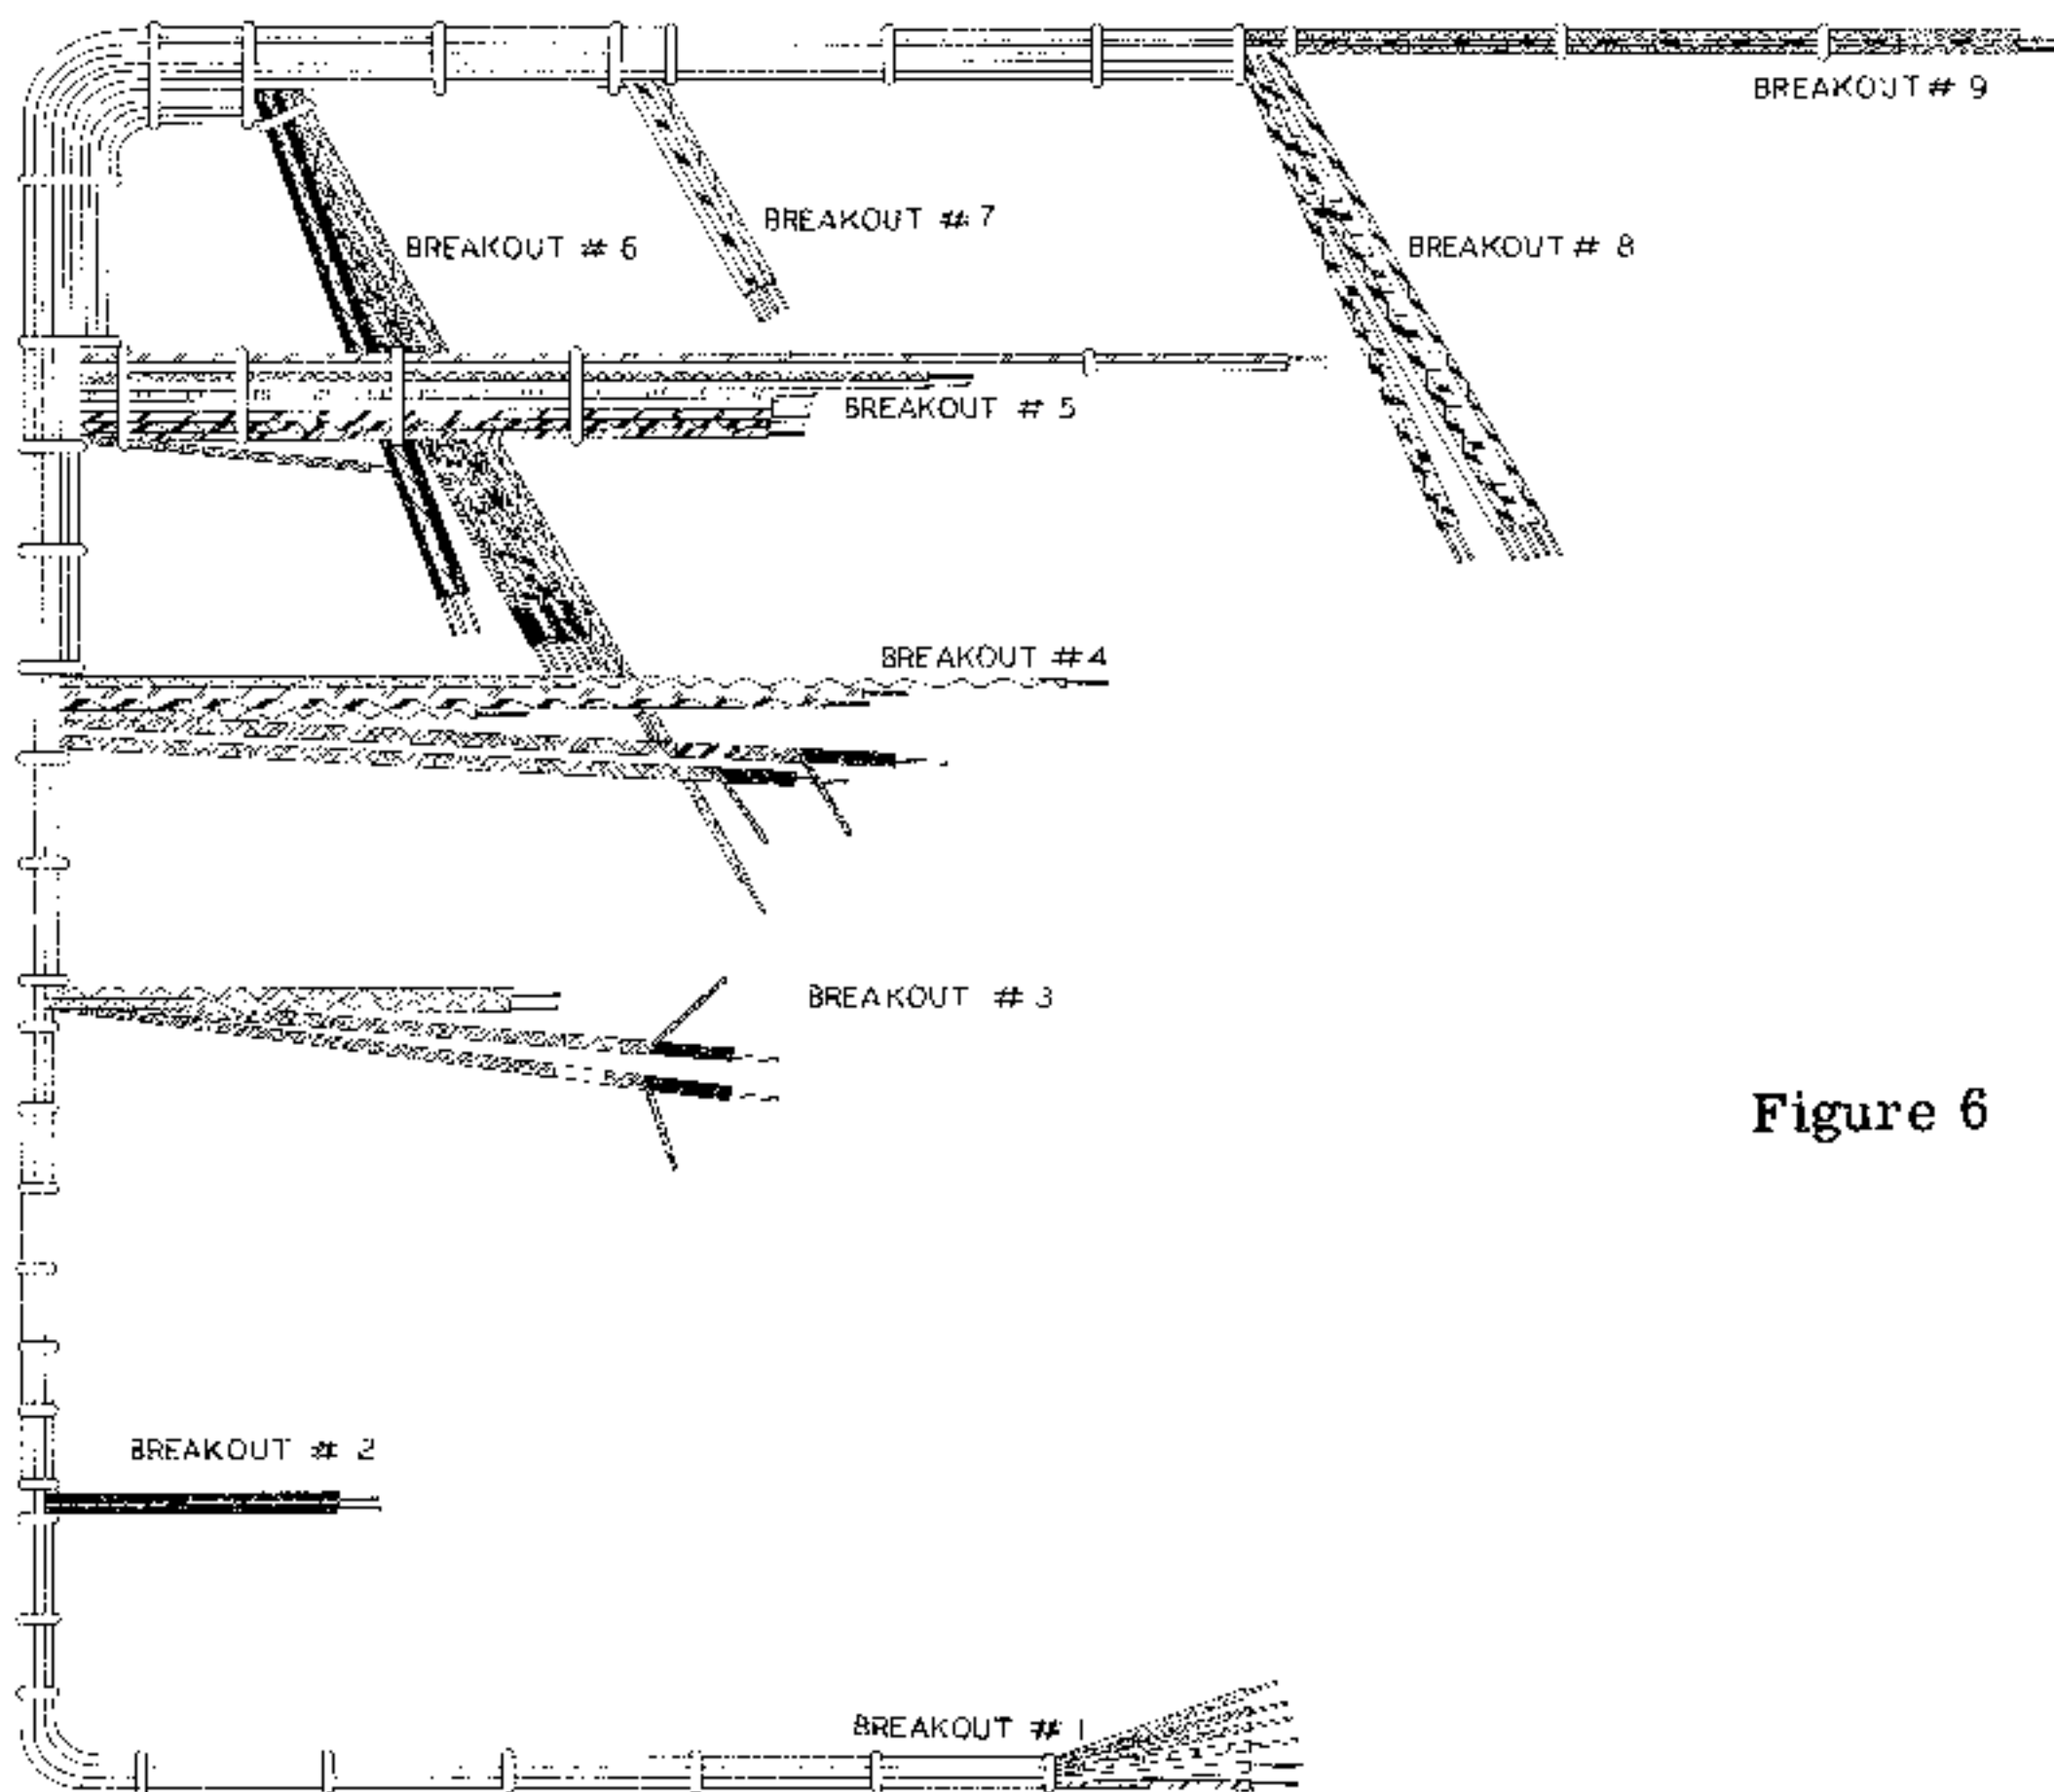

Figure 6
- ( ) Run the AC line cord through grommet AB. Tie a knot 2 1/2" from the end, as shown in Pictorial 3. Connect one lead to AD1 (S2); connect the other lead to AS1 (NS).
- ( ) Cut a piece of green wire to a 4" length, strip ends. Connect one end to AO5 (S); the other end will be connected later.
- ( ) Cut a piece of blue wire to a 4" length, strip ends. Connect one end to AO4 (S); the other end will be connected later.
- ( ) Cut a piece of yellow wire to a 3" length, strip ends. Connect one end to AO3 (S); the other end will be connected later.
- ( ) Cut a 1 3/4" length of bare wire, and tin the ends. Connect one end to the center post of the coaxial jack AH (S). Connect the other end to AG3 (NS). See Detail 5 page 45.
- ( ) Cut a 1 1/4" length of bare wire. Connect one end to AG2 (S); connect the other end to the ground lug adjacent to AG3 (S).
- ( ) Cut an 8 1/2" length of heavy red insulated wire; strip ends. Connect one end to AG1 (NS); the other end will be connected later.
- ( ) Follow Pictorial 3 for the correct placement of the wiring harness; breakouts are numbered on Figure 6. Locate breakout #1; this is the end that will be run through grommet AP. This breakout consists of 6 wires; white, brown, gray, green, violet and yellow. Run breakout 1, 2, 3, 4 and 5 through grommet AP, feeding the harness from the front towards the back of the chassis. Breakout #6 should be in front of the chassis partition; this breakout has 4 shielded wires in it. (Recheck the harness placement to be certain of proper placement before proceeding.)
- ( ) Connect the green wire from Breakout Number 1 to AE5 (S).
- ( ) Connect the white lead from Breakout Number 1 to AE6 (S).
- ( ) Connect the gray lead from Breakout Number 1 to AF2 (S).
- ( ) Connect the brown lead from Breakout Number 1 to AF3 (S).